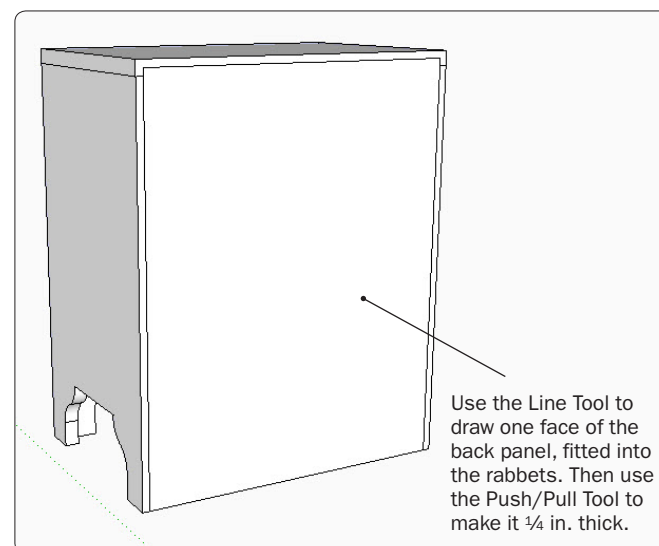

Figure 20. Create the back panel and you're done.
Step 17 Use the Line Tool to draw the face of the back panel, fitted inside the rabbet. Make it a component and name it Back Panel. Edit the component and use the Push/Pull Tool to make it 1/4 in. thick (Figure 20). This completes the model of the modular magazine rack.